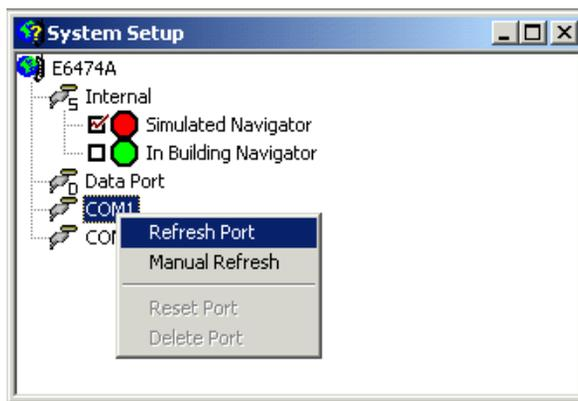

Figure 41 System setup view showing pop-up menu
- 1 Right-click on **COM1** in the System Setup view. A popup menu appears, as shown in Figure 41.